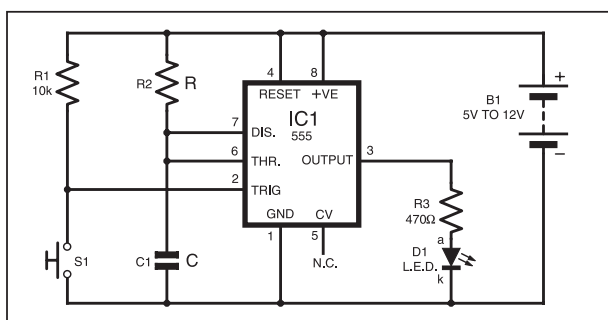

Fig.8.5. A 555 timer used in monostable mode.
Monostable circuits were looked at in Part 4, in which logic gates were used. The basic monostable arrangement using a 555 timer is shown in Fig.8.5. Resistor R1 can be any value from 1kΩ to 1MΩ, its purpose is simply to keep pin 2 positive unless the switch (S1) is pressed. Resistor R2 (value R) together with capacitor C1 (value C) sets the period (T) for which the output is high, according to the formula:
Photo 8.3. Waveforms for the circuit shown in Fig.8.5.
The oscilloscope photograph in Photo 8.3 shows the results obtained with the circuit in Fig.8.5. When the circuit is stable, output pin 3 is at 0V, and discharge pin 7 is internally connected to 0V. When trigger pin 2 is connected to 0V for a moment (e.g. by pressing switch S1), output pin 3 goes high, and the discharge pin internally disconnects itself. Hence current flows through resistor R2 and charges capacitor C1, as shown in the lower waveform. Threshold pin 6 monitors this rising voltage, and at two-thirds of the supply voltage, pin 3 switches back to 0V and pin 7 internally connects to 0V again.